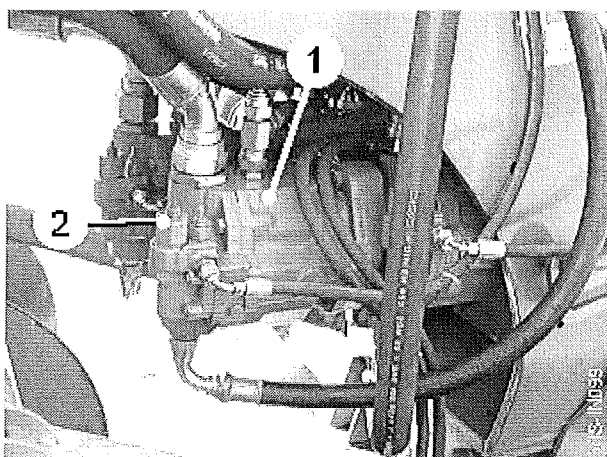

Fig 28
The powered axle pump (item 1, fig 28) is mounted to a double outlet splitter gearbox. Maximum pump output at 540 rpm PTO speed is 75-80 litres/minute with the axle in drive. This can be checked by fitting a flow meter between the pump outlet and the pressure hose and then running the powered axle with both wheels clear of the ground.
The system pressure is controlled by the pump relief valve (item 2, fig 28) which is pre-set at 200 bar. It may be necessary to adjust the system pressure if the harvester is trying to push the tractor. One turn anti-clockwise will reduce the relief valve pressure setting by approximately 25 bar. The pressure can be monitored on the pressure gauge (fitted to the main pressure pipe) while allowing the harvester to push against a braked tractor.